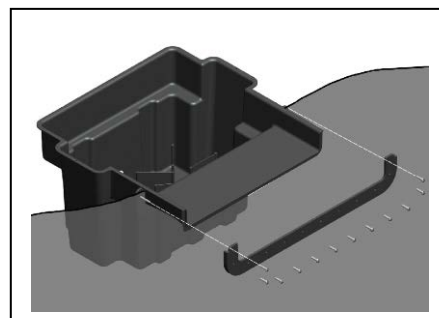

Fig. 8
8. Assembly the anchoring Flange into the tank flange to securely seal the liner to the tank, carefully install the screws snug, finally remove the temporary nails and attach the last two screw. Fig. 8